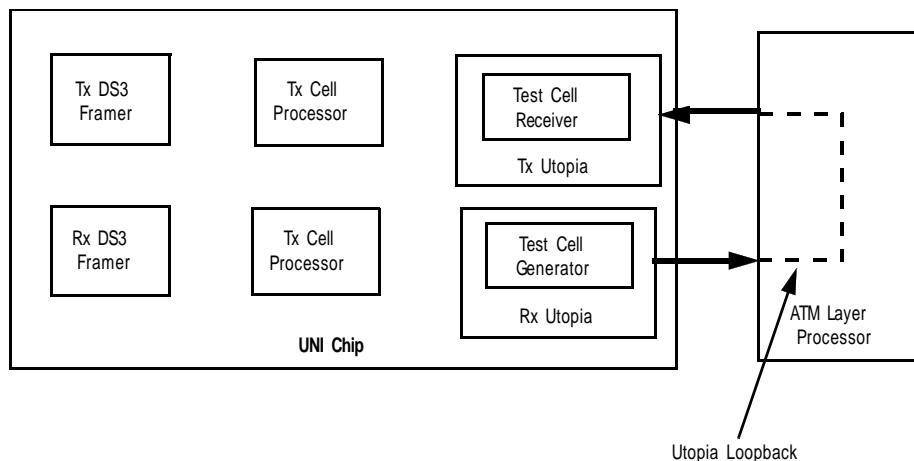

Figure 14. Illustration of System Side Test, while the UNI System is configure to operating in Utopia Loopback Mode.
If the user selects a “System side” test then the “Test Cell Generator” will generate and insert the test cells into the Rx FIFO, where they can be read out and processed by the ATM Layer processor, via the Receive Utopia Interface block. At some point, these test cells will be looped back into the “Transmit Path” (of the UNI device), via some externally implemented “Utopia Loopback” mode. Once in the “transmit path”, those test cells that reach the Tx FIFO (of the UNI) will be identified by their header byte patterns, and collected by the “Test Cell Receiver” where they will be checked for bit errors. Figure 14 presents an illustration of a System Side Test Configuration, while the UNI System is operating in a “Utopia Loopback Mode”, via the ATM Layer Processor.
2. The “Utopia Loopback” mode, as depicted in Figure 14, must be implemented by the user’s system level hardware.